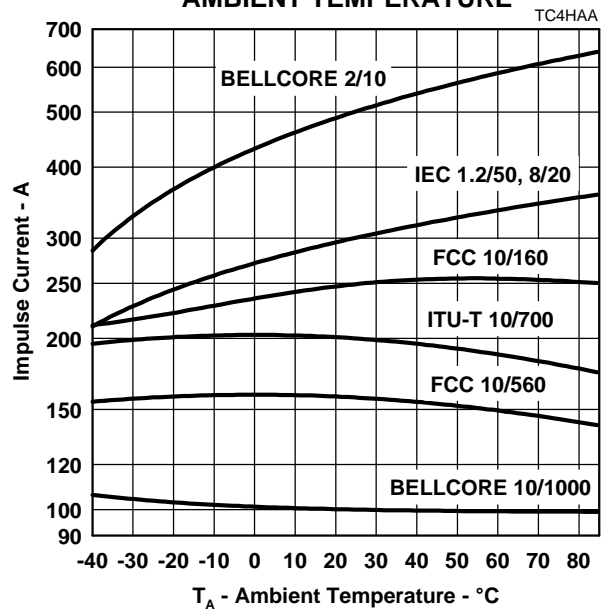

Figure 10.
4. See Figure 10 for impulse current ratings at other temperatures. Above 85 $^\circ\text{C}$, derate linearly to zero at 150 $^\circ\text{C}$ lead temperature.
If the impulse generator current exceeds the protectors current rating then a series resistance can be used to reduce the current to the protectors rated value and so prevent possible failure. The required value of series resistance for a given waveform is given by the following calculations. First, the minimum total circuit impedance is found by dividing the impulse generators peak voltage by the protectors rated current. The impulse generators fictive impedance (generators peak voltage divided by peak short circuit current) is then subtracted from the minimum total circuit impedance to give the required value of series resistance. In some cases the equipment will require verification over a temperature range. By using the rated waveform values from Figure 10, the appropriate series resistor value can be calculated for ambient temperatures in the range of -40 °C to 85 °C.